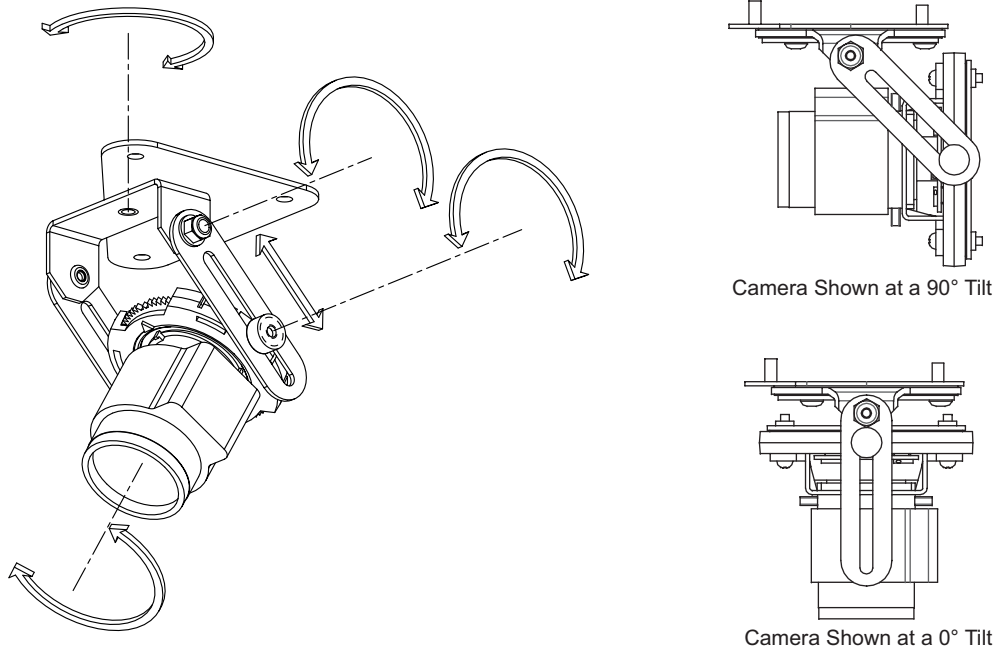

**Figure 4 Pendant Wall Mount Installation**
2. When wall mounting, route power/video cables through the wall mount. Securely mount the bracket in the desired location using four fasteners (see **Figure 4**) that are appropriate for the type of wall.
3. Feed power/video cables through removable pendant cap and attach cap to mount using the supplied conduit nut (see **Figure 4**).